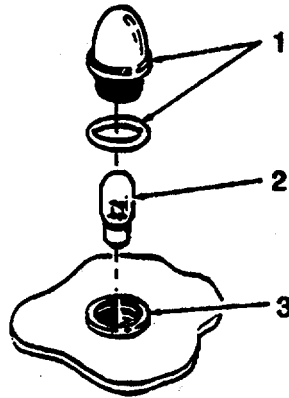

Figure 4-6. Indicator Light Assembly.
- (1) Open lens assembly (1, Figure 4-6).
- (2) Remove lamp (2) from lamp holder (3).